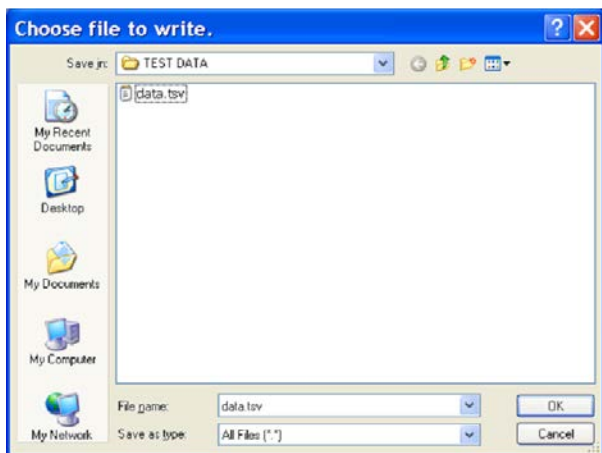

Figure 16. Load File Dialog Box:
- **Load data:** load previously captured data or example files in .tsv (tab separated values) format for analysis (see Figure 16). (The default location for example files is C:\Program Files\Analog Devices\AD7656_57_58\examples.)